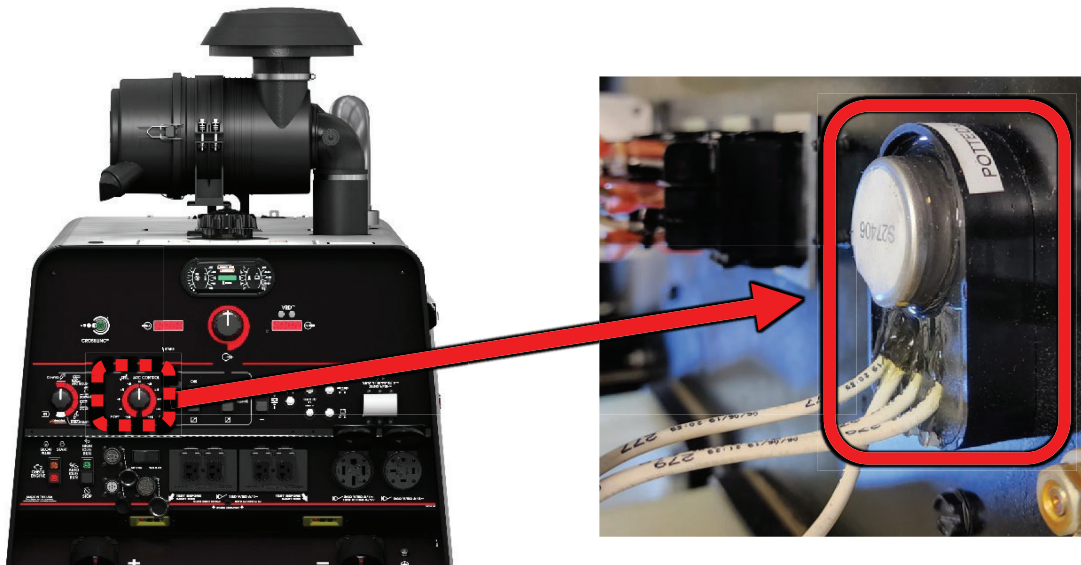

Figure F.1
1. For location of the Arc Control Switch refer to Figure F.1.